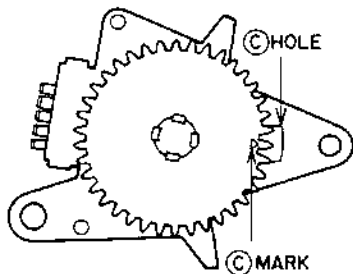

Fig. 4-16
- 1) Set the **MODE SELECT SWITCH**'s gear so that the © mark is in the center of the © hole as shown in Fig.4-16.